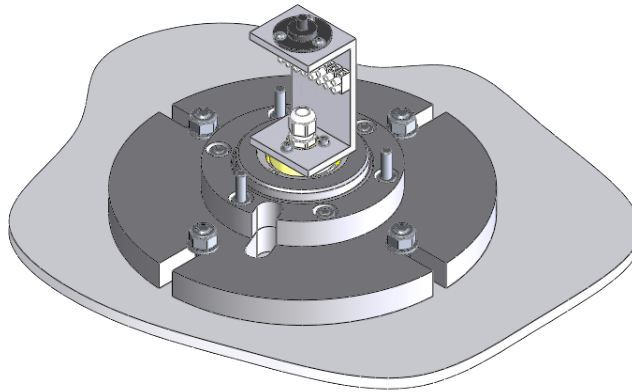

Figure 37: Bearing Housing mounted on Fixing Plate
- Mount the Bearing Housing on top of the Fixing Plate, positioning the Slip Ring Sub-assembly over the hole. Secure by tightening the nuts on the three Fixing Plate Captive Bolts (Figure 37).